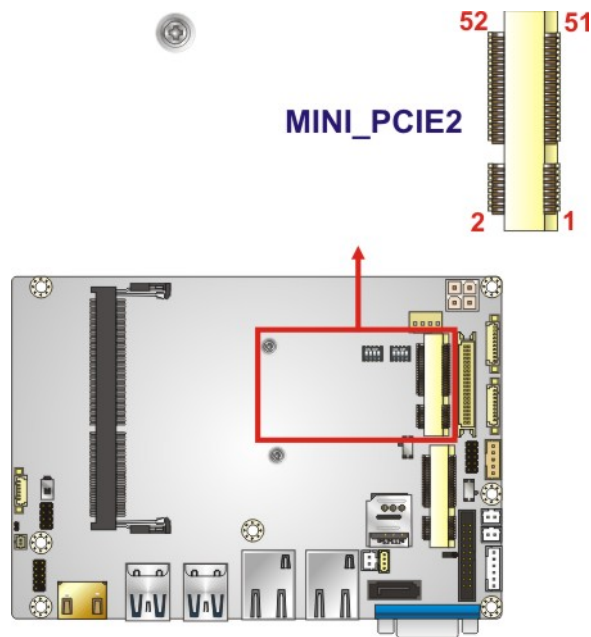

Figure 3-11: PCIe Mini Card Slot (with mSATA Support) Location
- CN Location:** See **Figure 3-11**